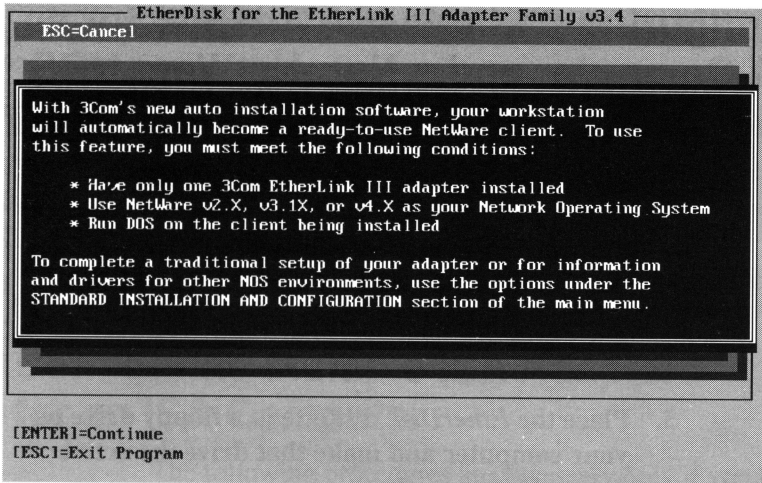
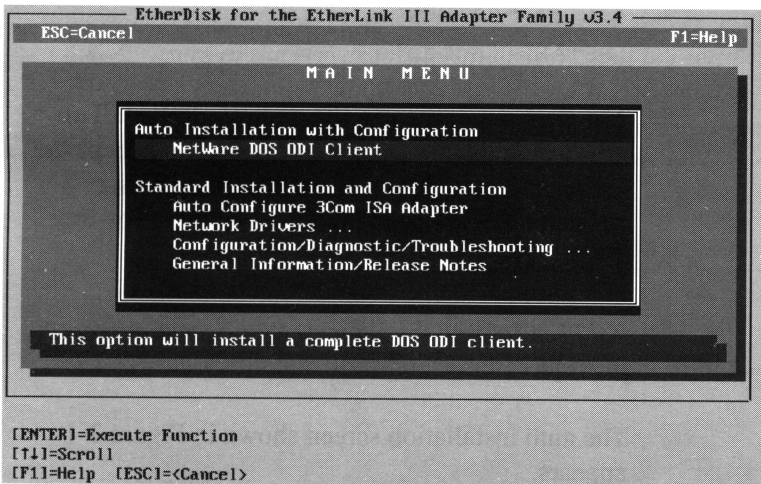

Figure 2-1. Auto Installation Screen
Figure 2-2. Main Menu
The auto installation screen shown in Figure 2-1 appears.
6. **When the main menu screen shown in Figure 2-2 appears, select NetWare DOS ODI Client and press [Enter].**
7. When the main menu screen shown in Figure 2-2 appears, select Auto Configure 3Com ISA Adapter and press [Enter].
1. When the main menu shown in Figure 2-2 appears, select **Configuration/Diagnostic/Troubleshooting**.
First the auto installation screen appears, as shown in Figure 2-1. Then the main menu appears with a list of options, as shown in Figure 2-2.